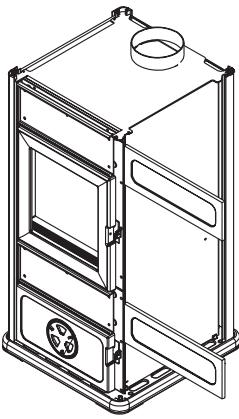

fig. 4
- introduceti placile in panoul frontal (fig. 4)